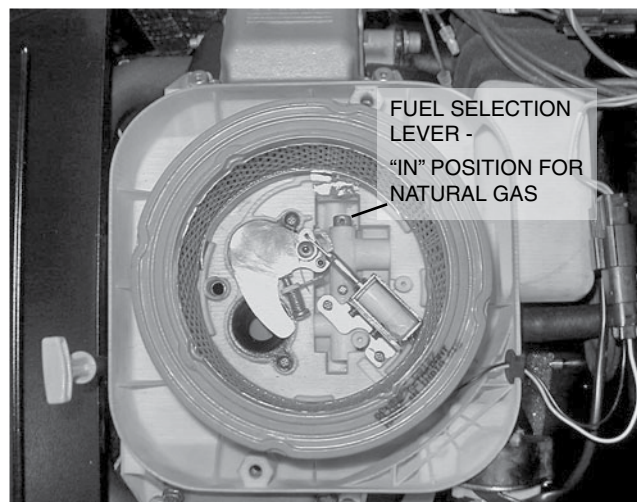

*Figure 7. 10 kW, GT-530 (Inlet Hose Slid Back)*
- Slide fuel selector on carburetor out towards the back of the enclosure (Figures 7 and 8).